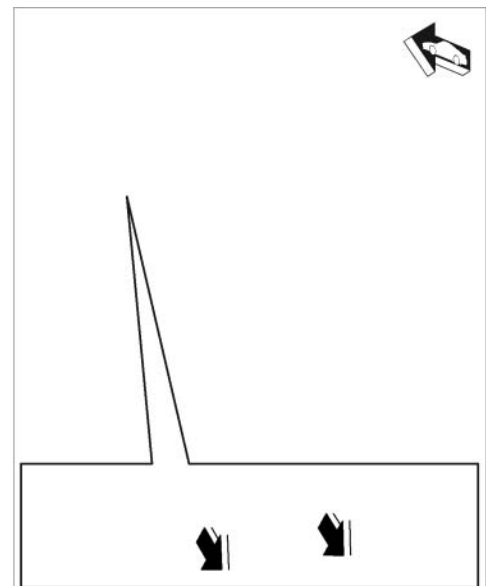

Figure 11
- 1.10.1 Unscrew and remove fastening screws close to the roof console ⇒ *Figure 11 -arrows-*.